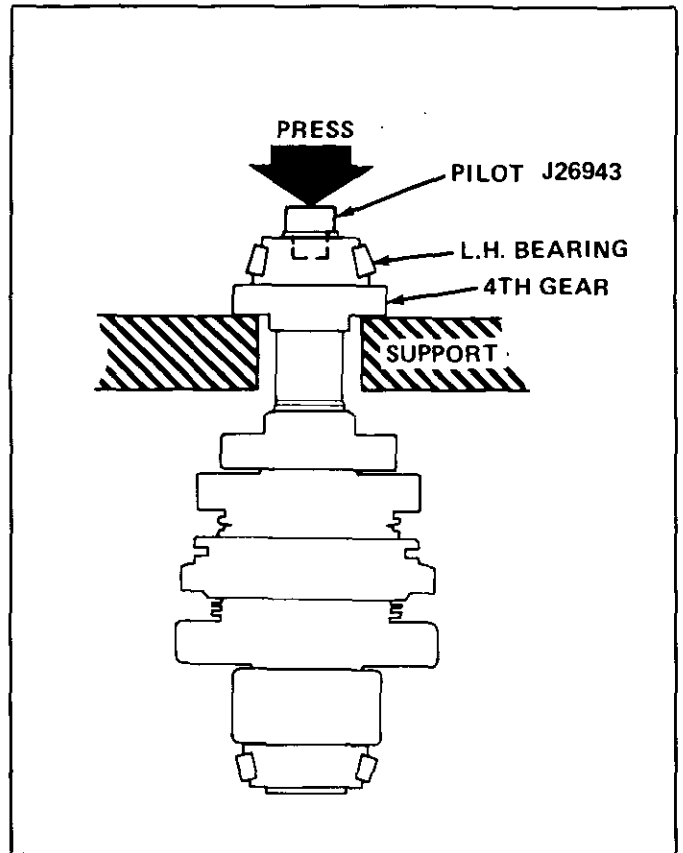

Figure 18 Removing L.H. Brg. and 4th Gear (Output)
1. Using support plates behind 4th gear and J-26943, press on the end of the output shaft to remove 4th gear and the L.H. bearing (Figure 18).